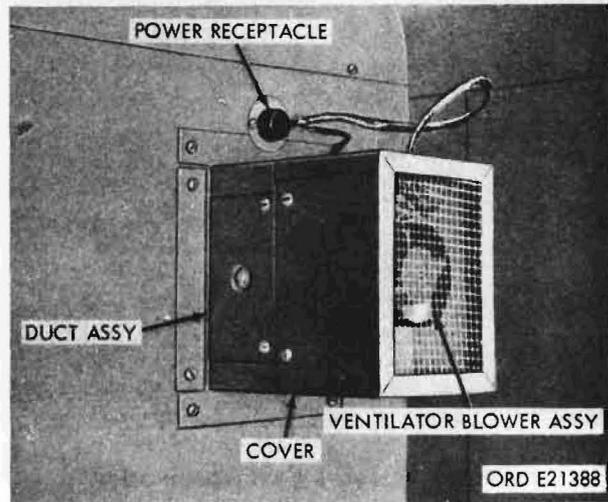

Figure 142. Body ventilator blower assembly
e. **Ventilator Blower.** Power for operation of the ventilator blower (fig. 142) is controlled by circuit breaker No. 2 in the multibreaker assembly (fig. 90).